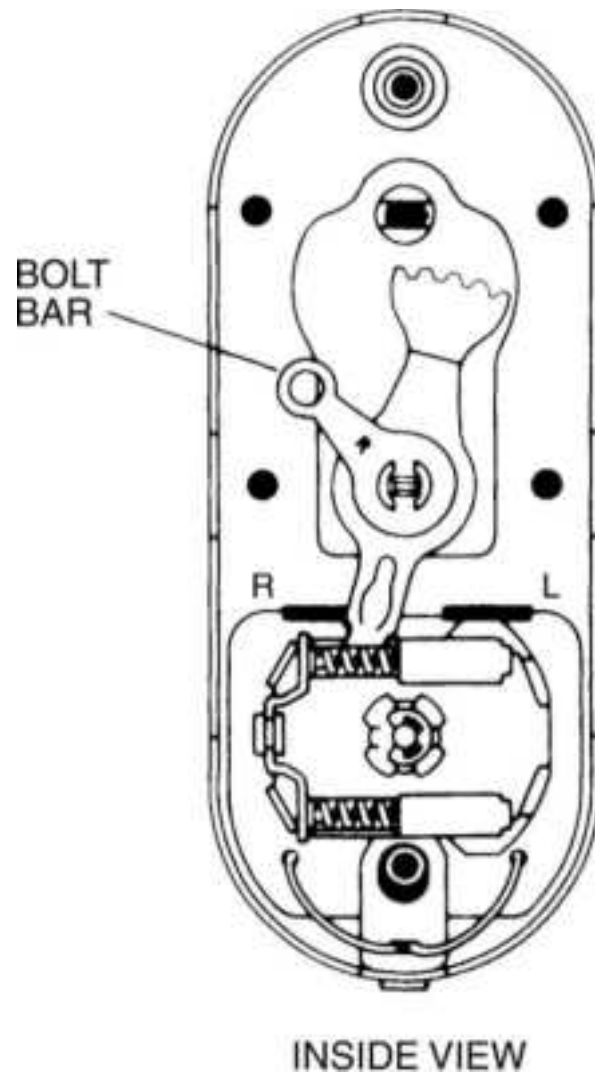

**Figure 13.105** Right-hand conversion, Step 13.
13. Install the bolt bar (Fig. 13.105 ).